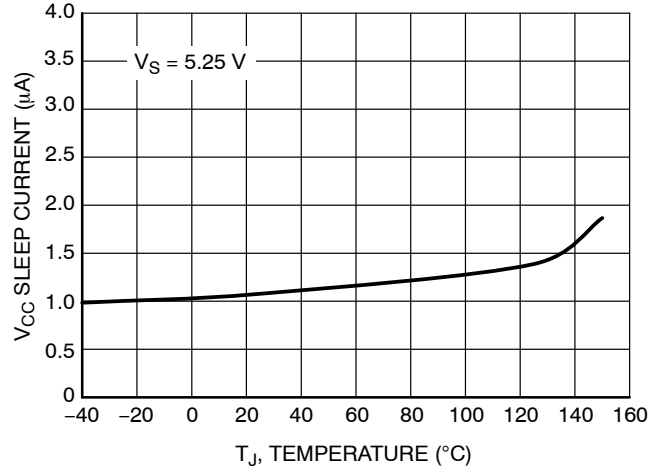

Figure 7. V_{CC} Sleep Supply Current vs. Temperature
6. For temperatures above 85°C , refer to Figure 7.
- For temperatures above 85°C , refer to Figure 7.